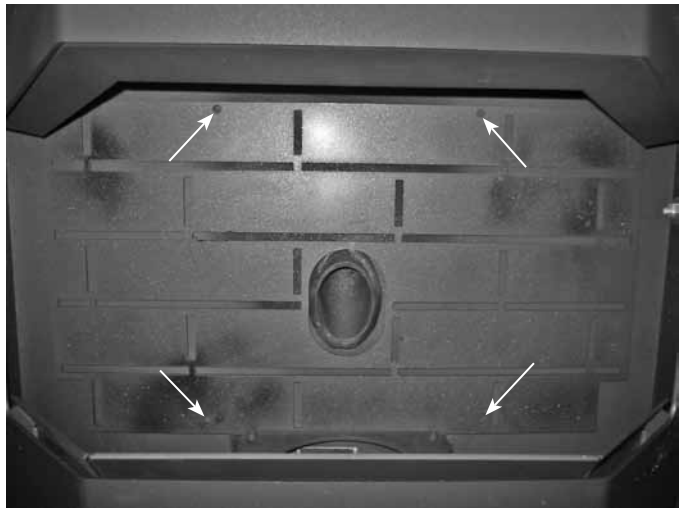

Figure 28
4. Make sure that the brick panel is centered, with equal space on either side of the auger tube. While holding the panel in place, use the drill with a #18 drill bit to drill out the four holes in the back of the firebox, as shown in **Figure 28**.